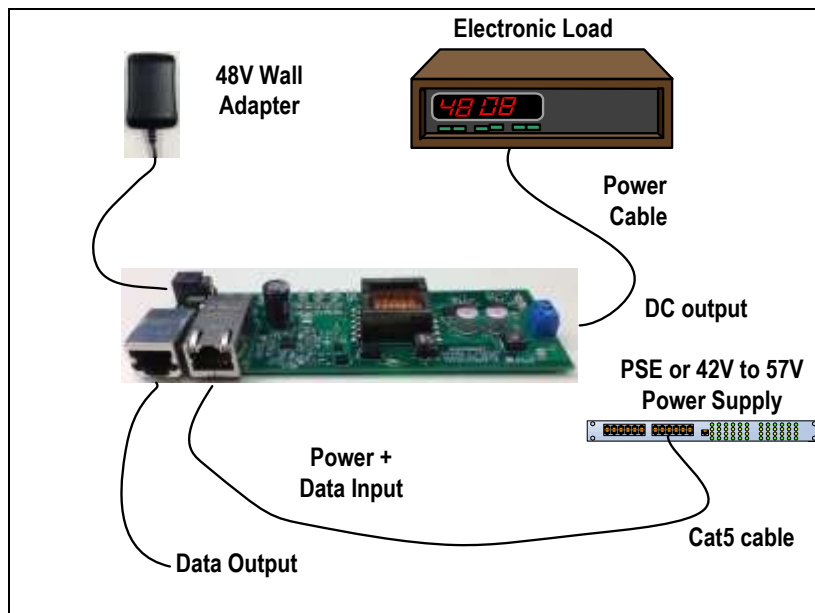

Figure 6: Test Setup
**Note:** It is important to verify evaluation board is setup as shown in Figure 6 prior to starting any operation.